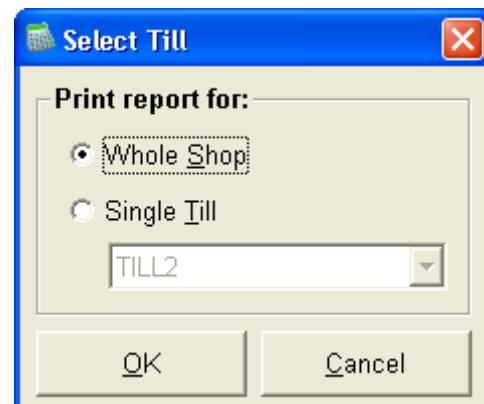

Figure 101
5. A screen will display (as shown in Figure 101) prompting you to specify whether you wish to print an end of day report for the whole shop or a single till.